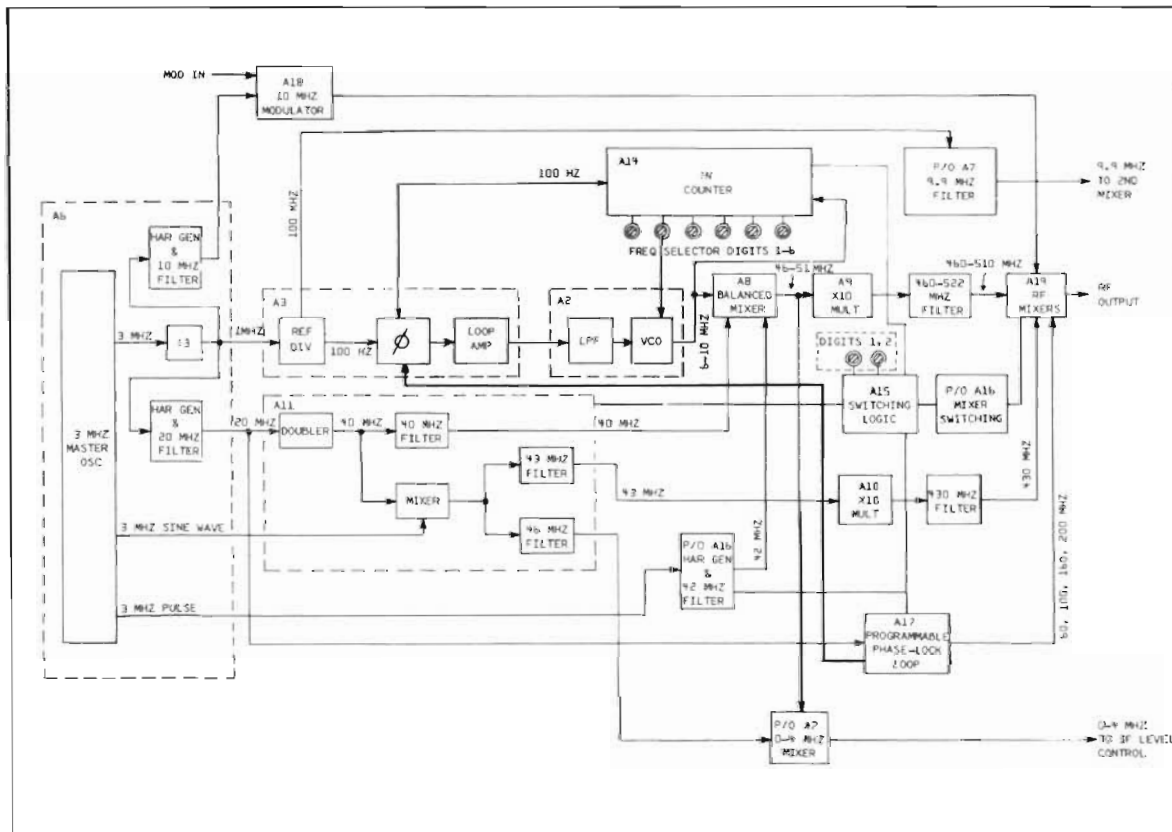

Figure 4-1. Frequency Synthesizer, Simplified Block Diagram
4.17 Figure 4-1 is a simplified block diagram of the frequency synthesizer. The loop is shown in the phase-locked condition and therefore the ÷N output is represented as being 100 Hz.